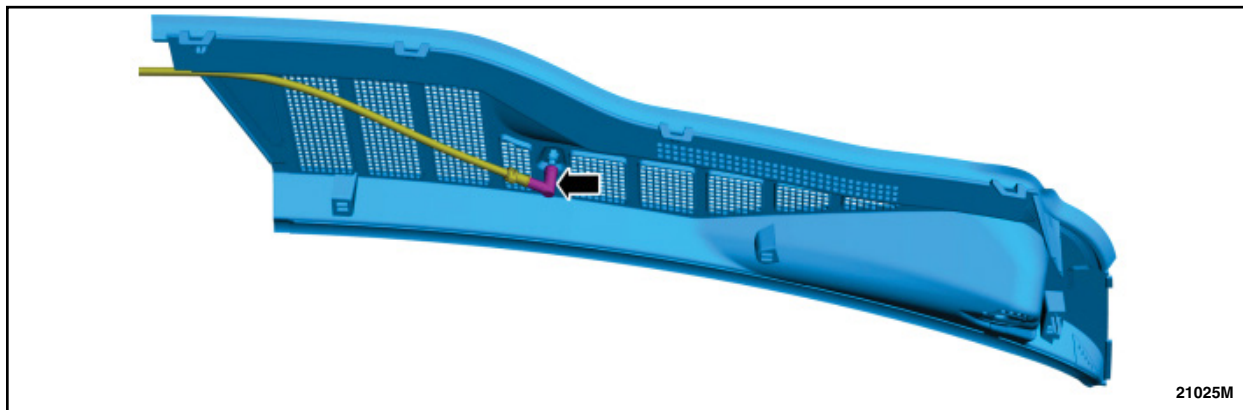

FIGURE 4
4. Disconnect the windshield washer tube and remove the cowl panel grille. See Figure 4.